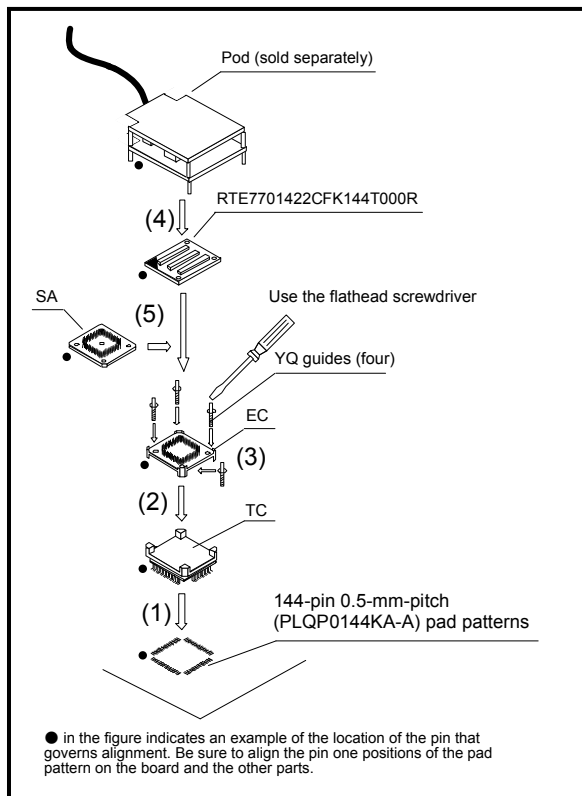

Figure 3 Procedure for Connecting the RTE7701422CFK144T000R
5. Connection Procedure (See Figure 3)